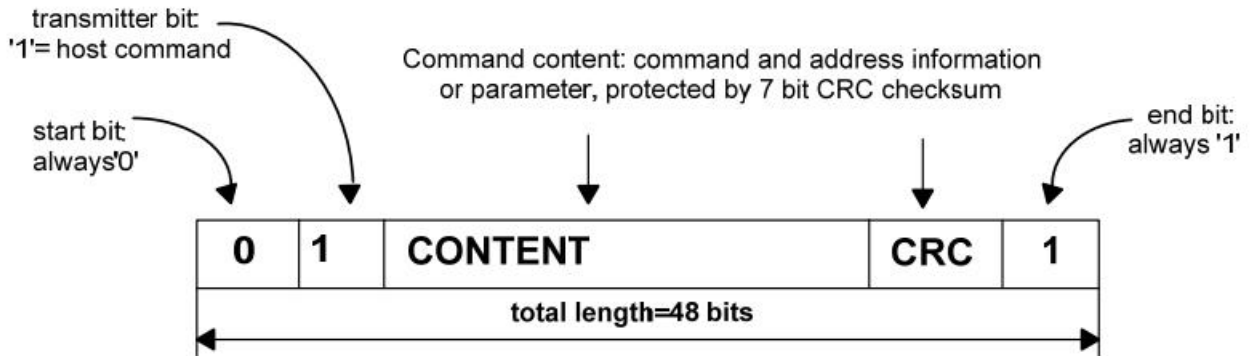

Figure 2: Command Token Format
Command tokens have the following coding scheme(refer to Figure 2),.Each command token is preceded by a start bit (0) and succeeded by an end bit (1). The total length is 48 bits. Each token is protected by CRC bits so that transmission errors can be detected and the operation may be repeated.